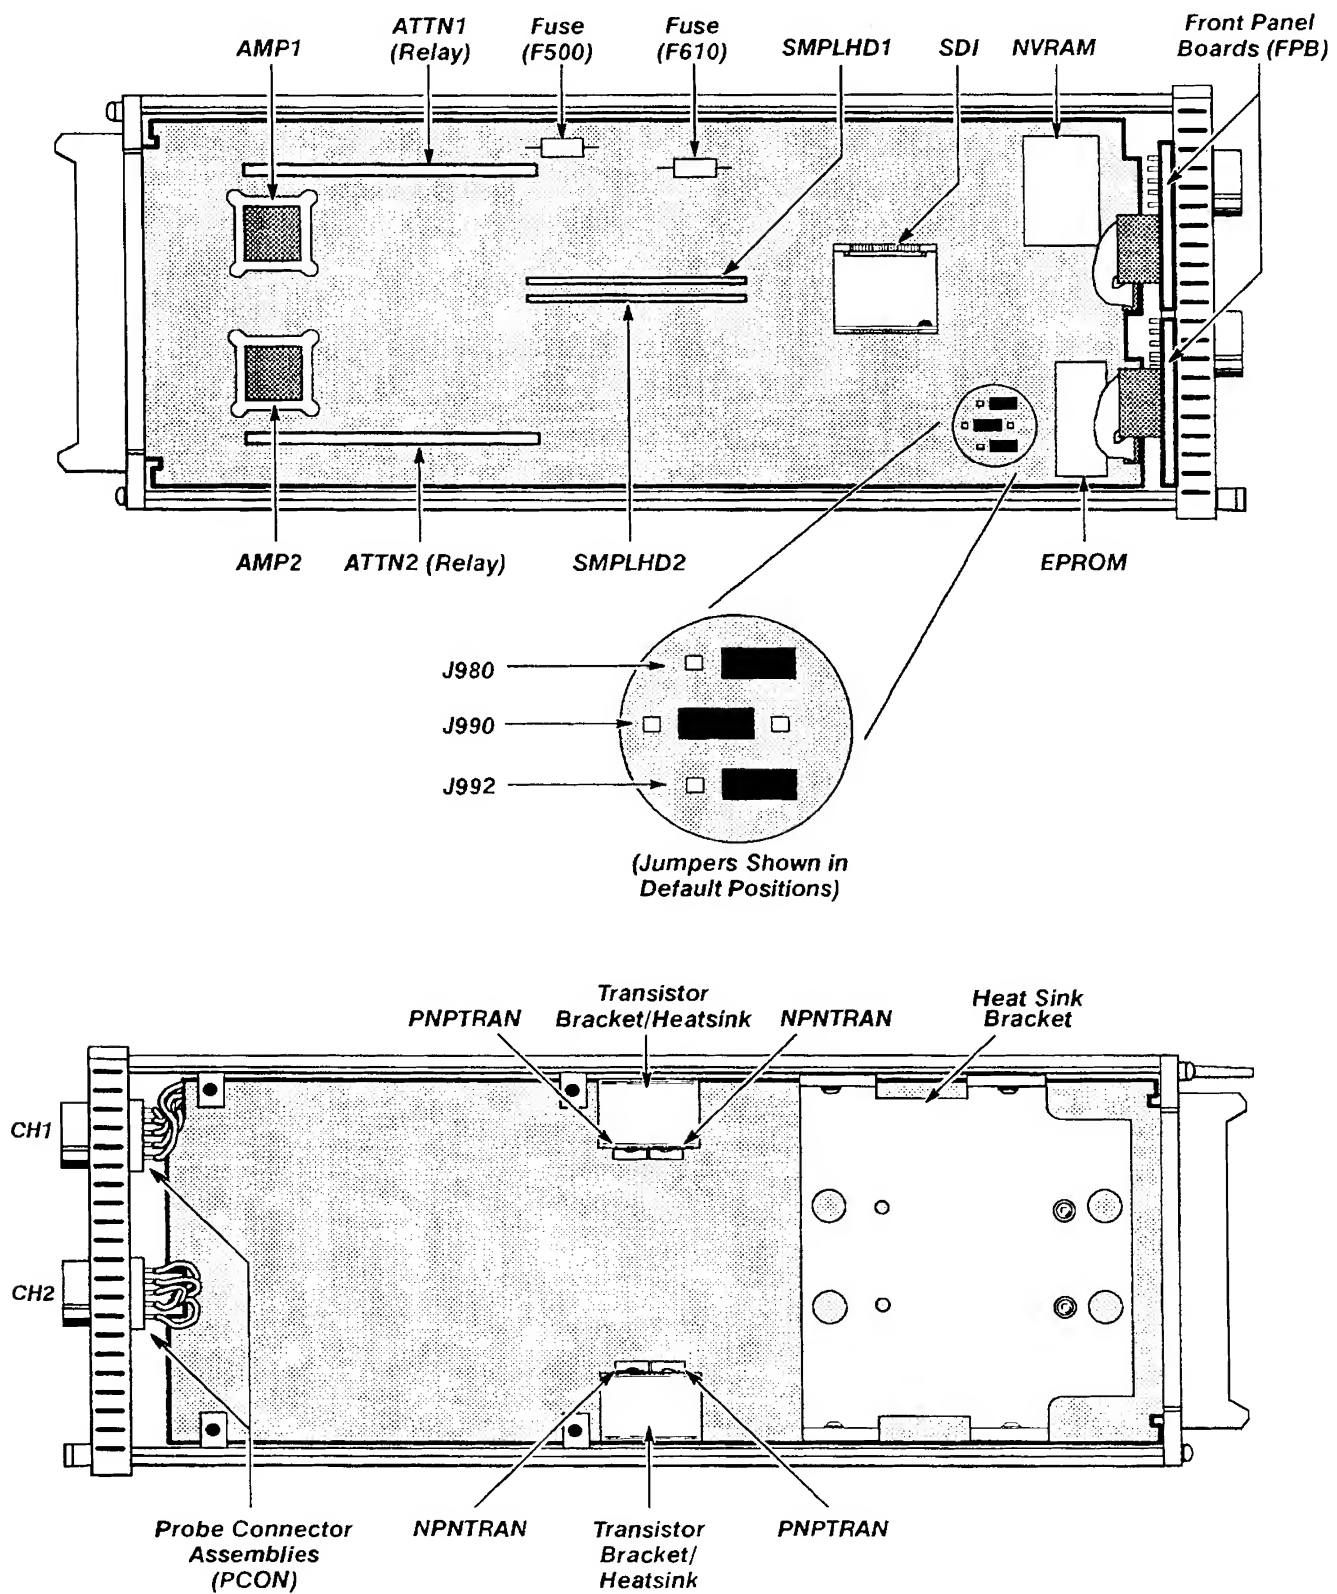

Figure 3-2 — FRU and FRU IC Locator
To find a defective fuse, remove the 11A16 from the mainframe, and use a digital multimeter to check for continuity across each fuse. Figure 3-2 shows fuse locations. Fuses are checked by a diagnostic test.
Once you have determined the suspect FRU remove the 11A16 side shields as discussed in the Preventive Maintenance section of Maintenance, find the FRU on the 11A16 Main board by referring to Figure 3-2, then refer to Table 3-8, to find the removal/replacement procedure(s).
See Figures 3-2, 3-4, 3-5, 3-7, 3-10, and 3-12 for connector wiring, and the locations of screws and index marks. You can verify a faulty connector by trying a known good probe.
To check the transistors in circuit, ensure that the power is off, then set a digital multimeter to the 1 k Ω range and measure the emitter to collector (two outside pins) resistance. This should measure 2 k Ω or greater in circuit, with or without a good fuse and if the transistors are not shorted collector-to-emitter (the most common failure mode). You can also identify the emitter and collector by the square board pad for the emitter and the the heatsink tab tied to the collector. We recommend that both transistors of a pair be replaced, even if only one appears defective. Refer to Figure 3-2 and remove a transistor pair as follows:
- ☐ Step 1: Orient the new transistors properly onto the heatsink, aligning the tab holes with the threaded hole in the heatsink. Note that the NPN is on the right and PNP is on the left (see Fig. 3-2).
The diagnostics are the primary means for troubleshooting Sample and Hold boards. Refer to Figure 3-2 to identify the two Sample and Hold boards.